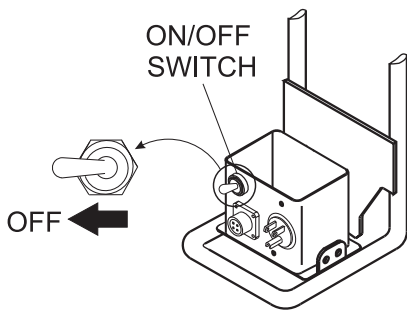

Figure 13. Power OFF/ON Switch (OFF Position)
1. Make sure the power ON/OFF switch (Figure 13) located near the bottom of the ballast is in the **OFF** position.